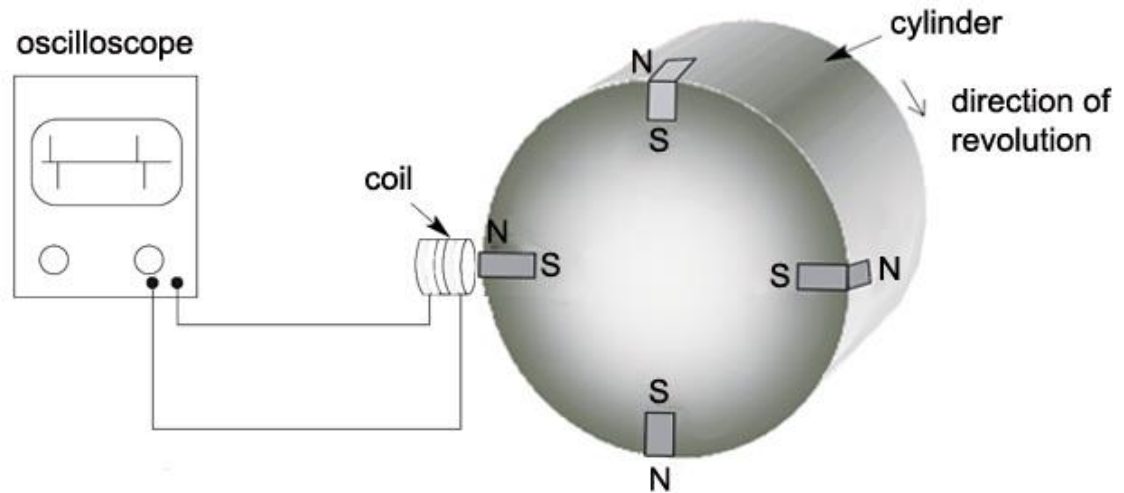

Fig. 5.1
- (b) Fig 5.1 shows a system used by an engineer to determine the constant rate of revolution of a rotating cylinder.